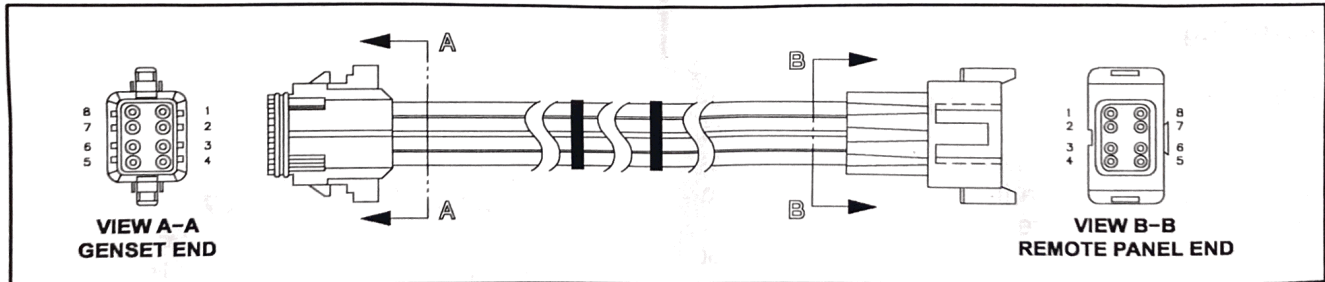

FIGURE 3. PLUG-IN WIRE HARNESSES AVAILABLE IN 15, 25, 45, 75, 100 & 150 FOOT LENGTHS
**Cummins Onan Harnesses:** Plug-in wire harnesses of various lengths are available for connecting the digital display to the genset (Figure 3).